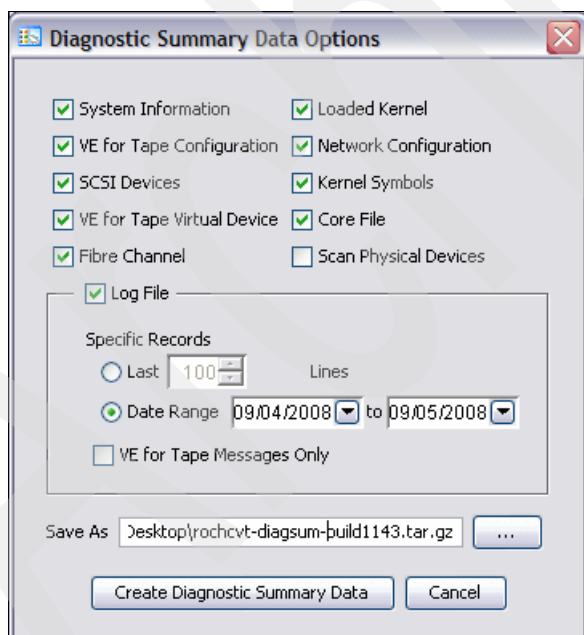

Figure 7-25 IBM Virtualization Engine TS7510: Diagnostic Summary Data Options
2. Based on the discussion with your Technical Support representative, select the options you want to include and set the diagnostic summary file name, as shown in Figure 7-25.